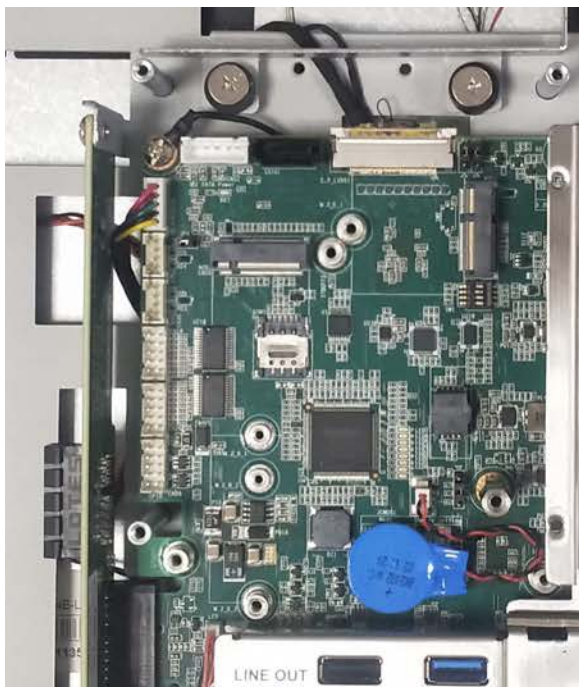

Figure 2.13
1. Follow Steps 1 and 2 of Section 2.4 to remove the rear cover and VESA mount plate. The disassembled machine should appear as shown in Fig. 2.13.